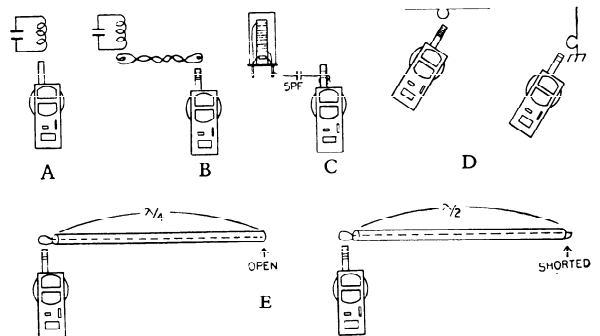

Fig. 1 Dip meter coupling methods.
8. Examples of typical coupling methods are shown in Fig. 1.
Unknown inductances and capacitances can be determined with use of the dip meter, see Sect. 5-2 and "A" in Fig. 1.